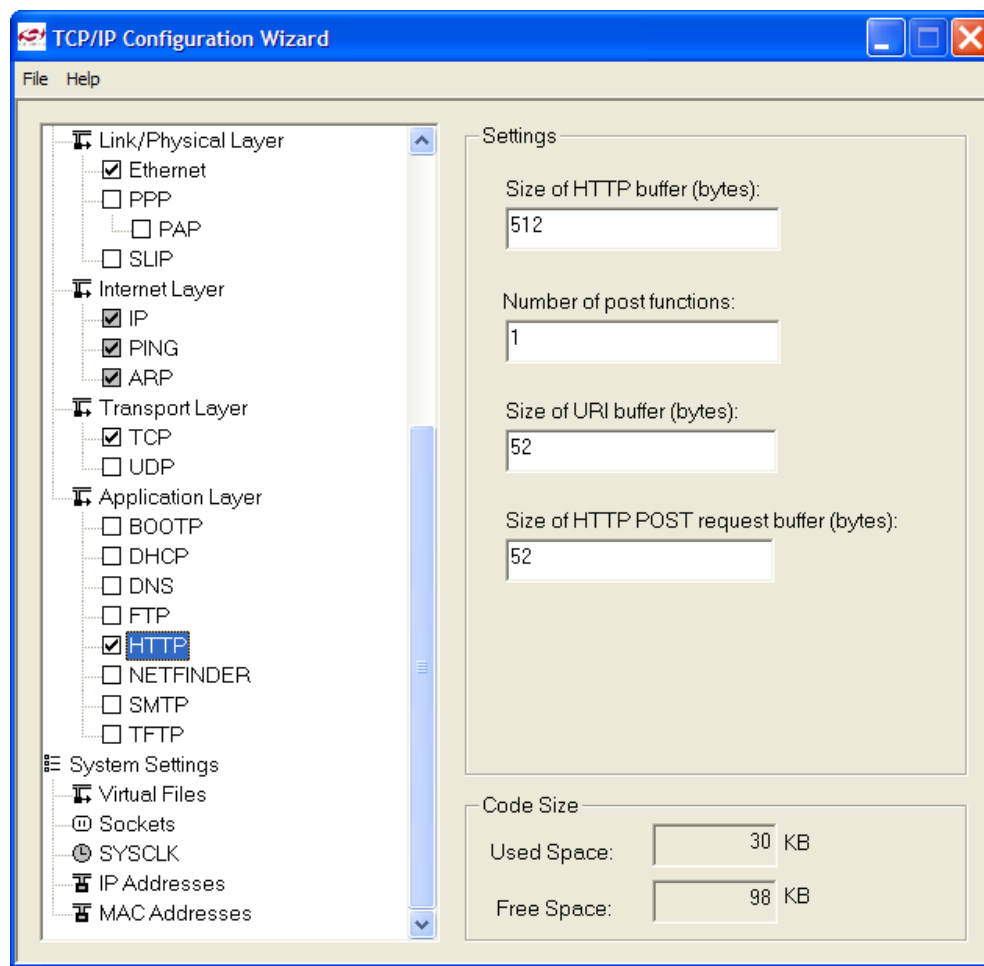

Figure 7. TCP/IP Configuration Wizard Protocol Selection
4. In the **Protocol Settings** section of the left window, make sure **Ethernet** is selected then check **HTTP**. The lower level protocols required to run HTTP (e.g., TCP) will automatically be enabled (see Figure 7).